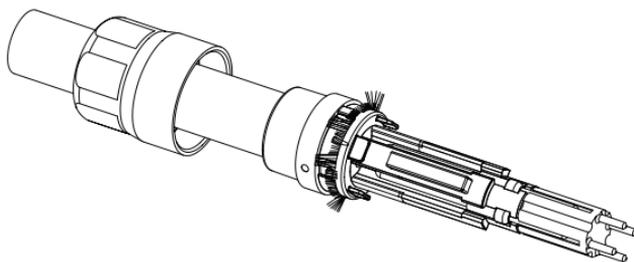

Figure XI-16
- Put on the assembly aid (Figure XI-16).